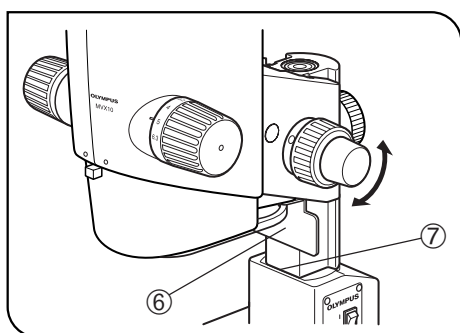

Fig. 22
★ Before installing the focusing assembly on the pillar, adjust the coarse and fine focus adjustment knobs so that the hand guard ⑥ does not protrude from the lower end of the focusing assembly ⑦. (Fig. 22)